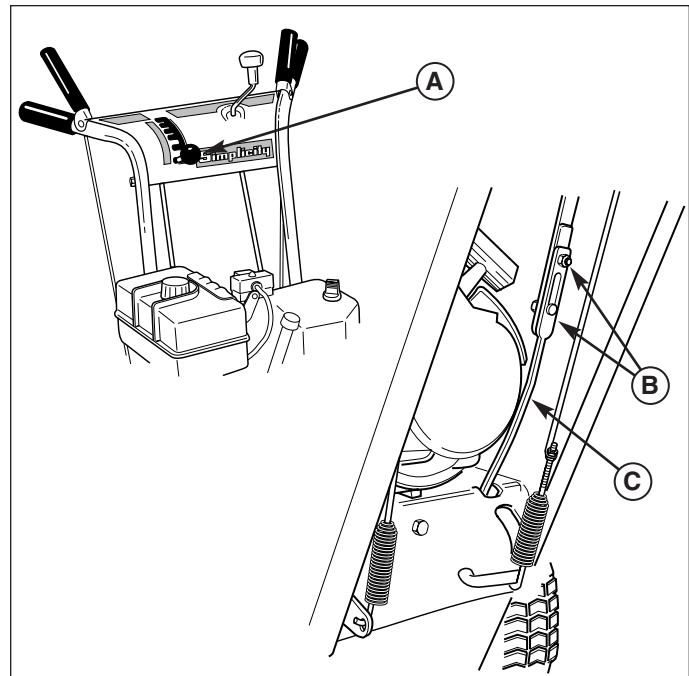

Figure 18. Speed Selector Linkage Adjustment
1. Move the ground speed control (A, Figure 18) fully forward.
2. Loosen the hardware (B) securing the upper and lower shift rods.
3. Push the lower rod (C) down fully (into the housing).
4. Make sure the ground speed control (A) is in the full forward (5th gear) position. Tighten the shift rod hardware (B).